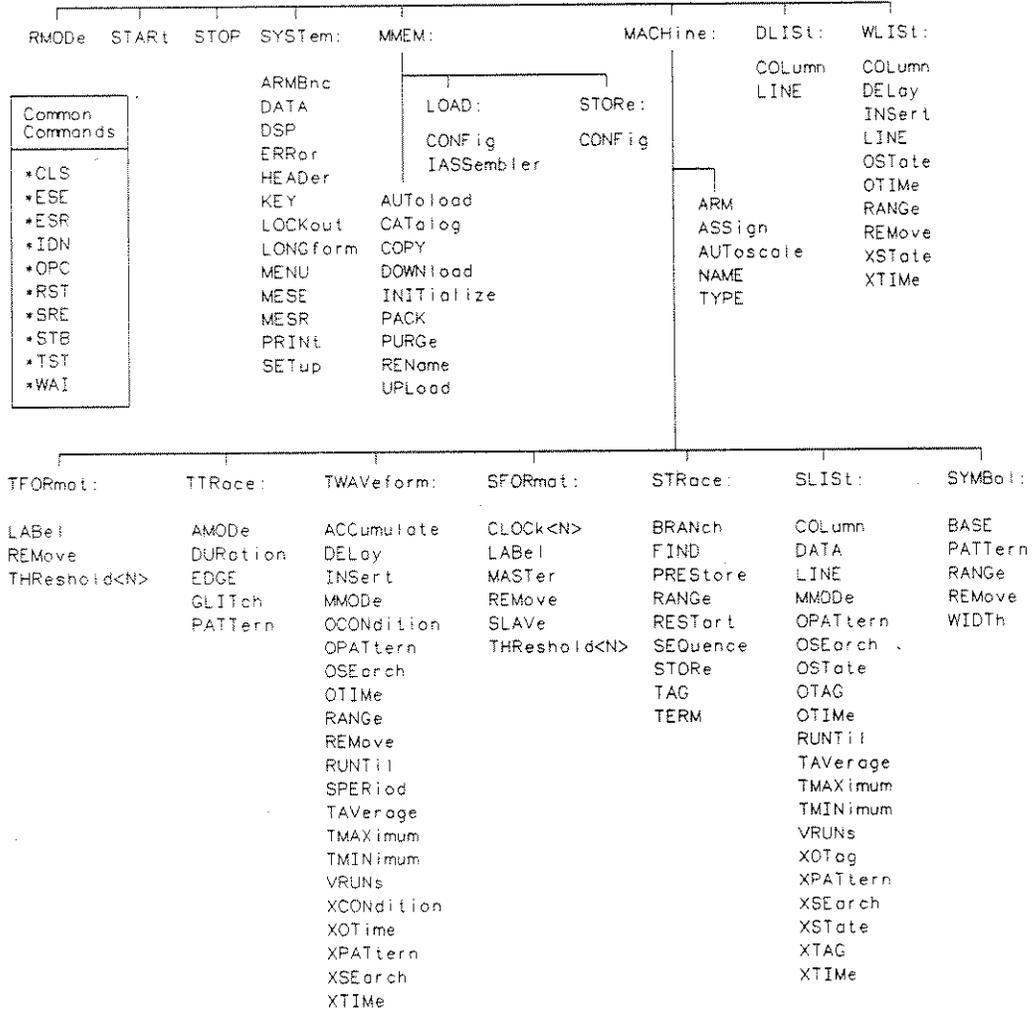

Figure 3-1. The HP 1650A/51A System Command Tree
The command tree (figure 3-1) shows all commands in the HP 1650A/51A logic analyzers and the relationship of the commands to each other. You should notice that the common commands are not actually included with the command tree. After a <NL> (linefeed - ASCII decimal 10) has been sent to the instrument, the parser will be set to the "root" of the command tree.
**Tree Traversal Rules** Command headers are created by traversing down the command tree. A legal command header from the command tree in figure 3-1 would be "MMEM:INITIALIZE." This is referred to as a compound header. A compound header is a header made of two or more mnemonics separated by colons. The mnemonic created contains no spaces. The following rules apply to traversing the tree:
- Executing a subsystem command places you in that subsystem (until a leading colon or a < program message terminator > is found). In the Command Tree, figure 3-1, use the last mnemonic in the compound header as a reference point (for example INITIALIZE). Then find the last colon above that mnemonic (MMEM:), and that is where the parser will be. Any command below that point can be sent within the current program message without sending the mnemonic(s) which appear above them (STORE, etc.).
The HP 1650A/51A programming commands are divided into three types: common commands, system commands, and subsystem commands. A programming command tree is shown in figure 3-1 and a programming command cross-reference is shown in table 3-2.